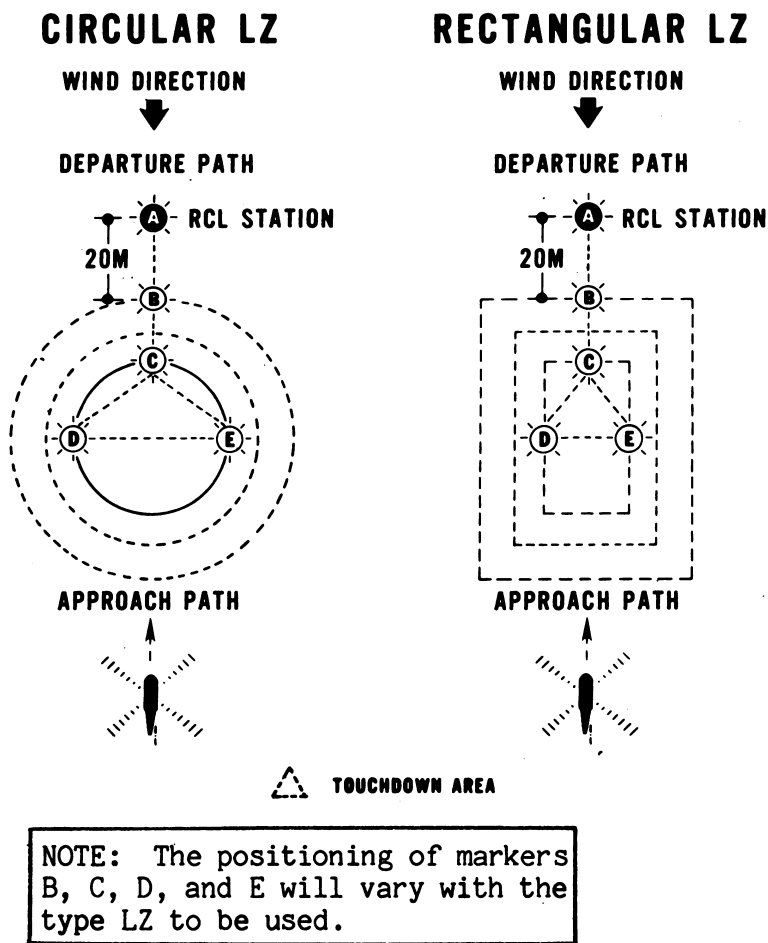

Figure 1
2. Wind Direction. The reception committee leader (RCL), upon arriving at the landing zone, will determine the wind direction by use of his compass. Once wind direction is determined, he will insure the stem of the "Y" points into the general heading of the wind direction. The pilot will land into the wind between lights "D" and "E" and not forward of light "C." (See fig. 1.)